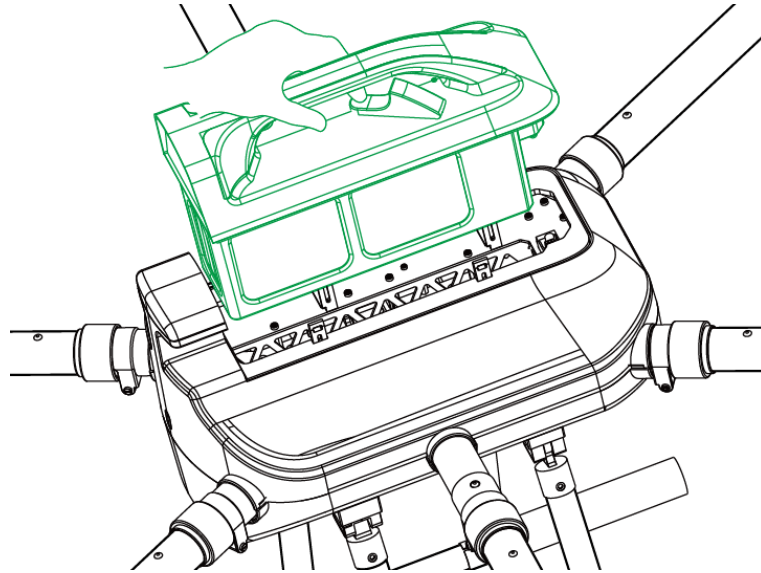

Figure 5-5
Step 2 Lift the battery from the compartment, as shown in Figure 5-5.